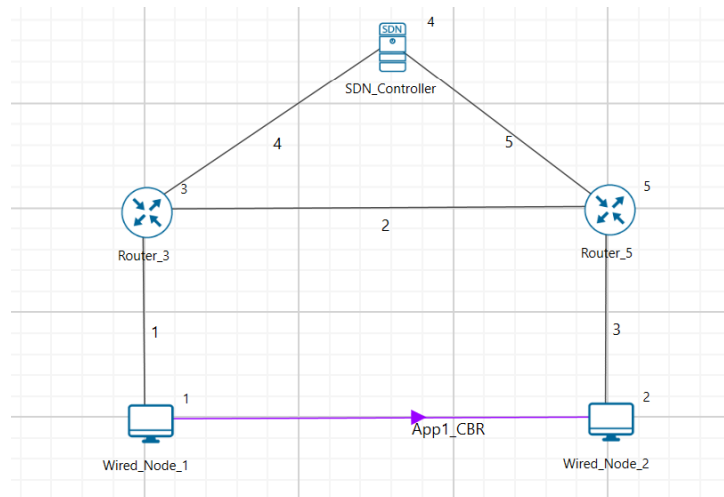

Figure 3-2: Network set up for studying the SDN Internetworks
1. The following network diagram illustrates what the NetSim UI displays when you open the example configuration file for SDN as shown Figure 3-2.